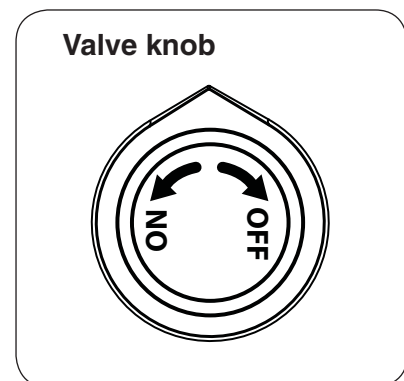

Fig. 21-2
- 4. **While holding the igniter button in, verify that the electrode is sparking.** Then turn the gas control knob counter-clockwise to the **ON** position, depress, and hold for 15 seconds (see Fig. 21-2). Your burner should light within 5 seconds.
To extinguish your gas burner, depress the gas control knob and turn it clockwise to the **OFF** position (see Fig. 21-2). Be sure the control knob is turned fully off to avoid any gas leakage.